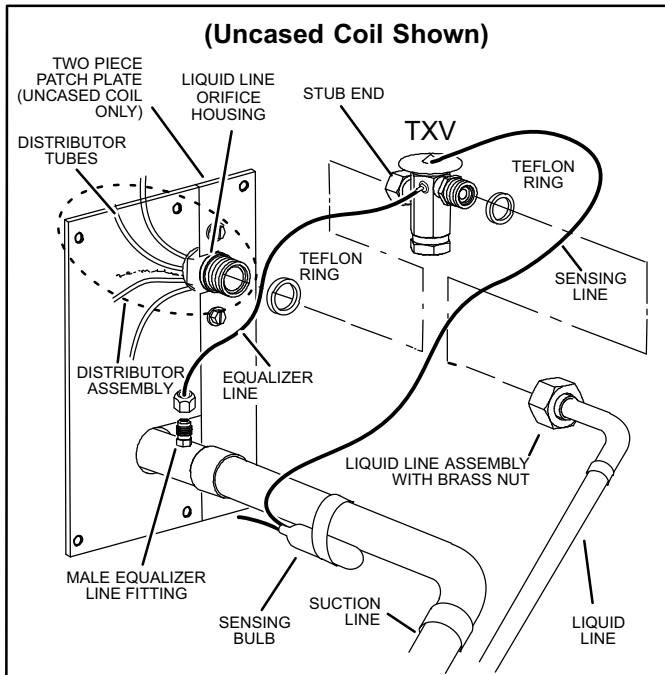

Figure 20. Typical TXV Removal
- Remove the suction line sensing bulb as illustrated in figure 20.
- Remove and discard TXV and the two Teflon rings as illustrated in figure 20.